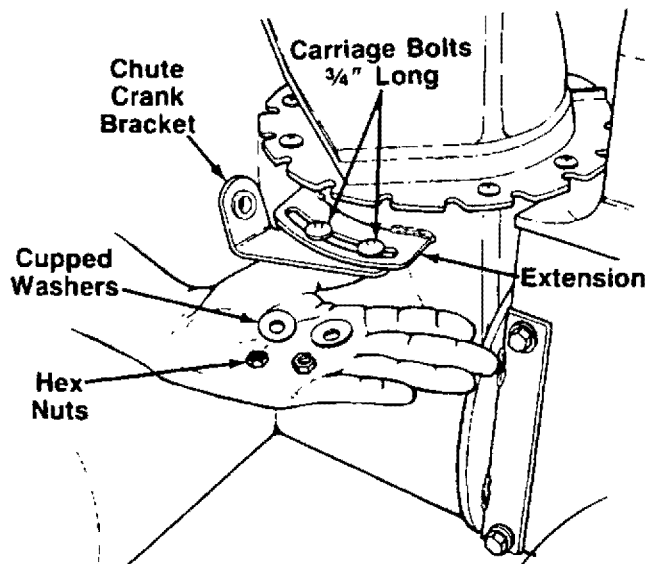

FIGURE 4.
5. Attach chute crank bracket to the extension on the left side of the chute opening (bracket goes beneath the extension) as shown in figure 4. Secure with two  $\frac{3}{4}$ " long carriage bolts,  $\frac{5}{16}$ " cupped washers (cupped side of washers go against the chute bracket) and hex nuts. Do not tighten at this time.